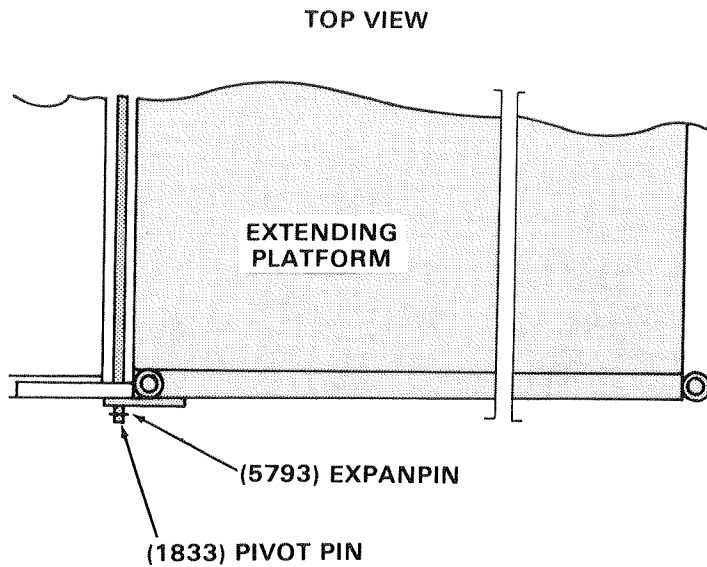

Figure 2. Installing Pivot Pin.
- c. Line up holes in extending platform with holes in main unit and slide pivot pin through holes. Figure 2.
- d. Secure pivot pin with expanpin (part 5793), Figure 2.